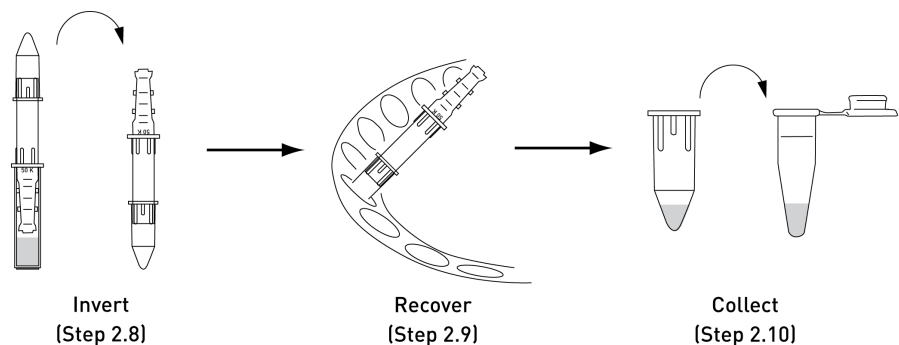

Figure 3. Optional purification and concentration of the labeled antibody conjugate.
- 2.8 Invert the antibody concentrator into the conical collection tube as shown in Figure 3.